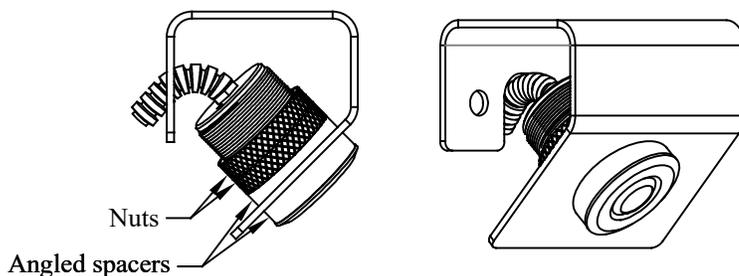

Figure 6: Angled spacer mounted camera.
- If a different field of view is desired, use the two angled collars on either side of the bracket instead of the spacer collar. (Figure 6) Turn the two collars to adjust the angle of the camera until the desired field of view is achieved.